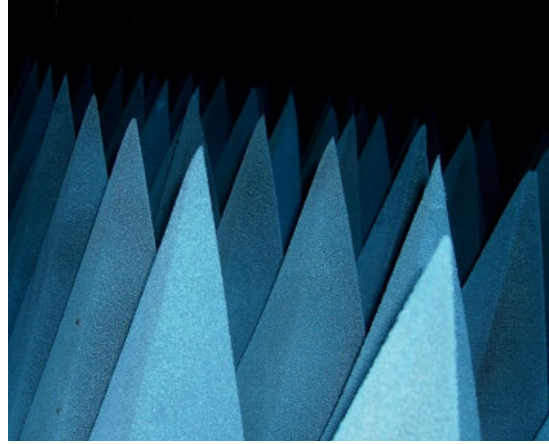

Fig. 1 Pyramidal absorbers
A Radio frequency (RF) anechoic chamber is a closed RF echo free space that simulates infinite free space condition inside a room. It is constructed by covering the inner walls of the room by RF absorbers made of carbon impregnated foam shaped in the form of pyramids (Fig. 1). The size of the pyramids and the carbon composition determines the lowest frequency that can be effectively absorbed. Larger sized cones are capable of absorbing lower frequency waves.